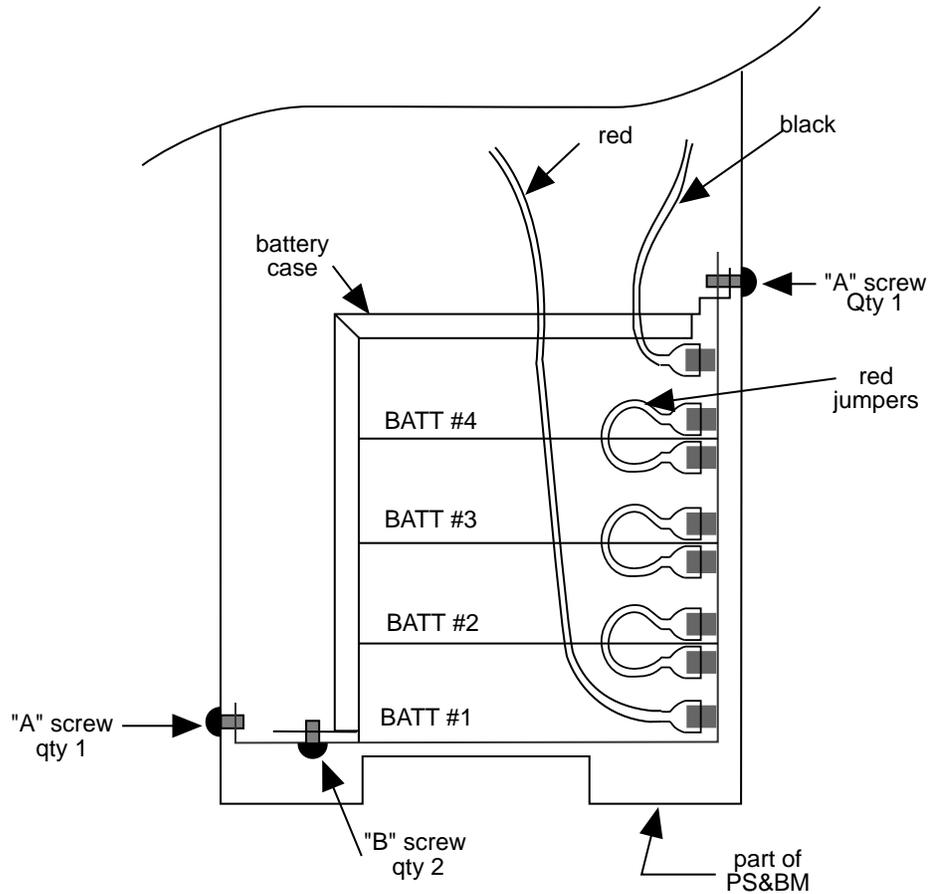

Figure 7-15. Battery Module
2. Remove the screws which attach the battery module to the power supply chassis. These screws are marked "A" in Figure 7-15.
3. Disconnect the black lead that connects the power supply to the top lug of the top battery (Figure 7-15).
4. Disconnect the red lead that connects the power supply to the bottom lug of the bottom battery (Figure 7-15).
7. Disconnect the three red jumpers that connect the batteries together (Figure 7-15).
8. Remove the two screws which hold the battery module sheet metal pieces together. These screws are marked "B" in Figure 7-15.
1. Orient the new battery module as shown in Figure 7-15.
3. Connect the batteries with the three red jumpers (Figure 7-15).
6. Connect the black lead from the power supply to the top lug of the top battery (Figure 7-15).
7. Connect the red lead from the power supply to the bottom lug of the bottom battery (Figure 7-15).